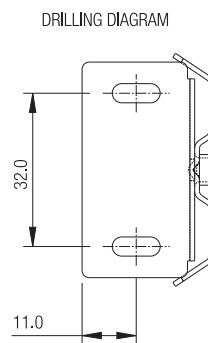

Fig. 2
3. Drill as per drilling diagram Fig. 2.